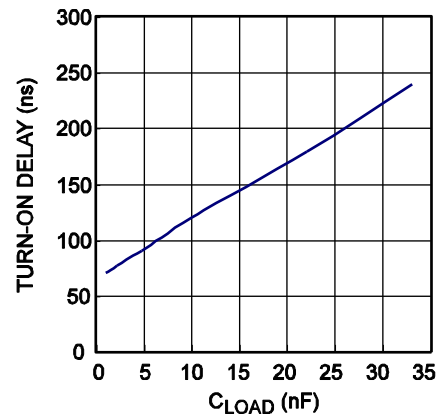

**Figure 12: Synchronous Rectification Typical Waveform in LLC**
Figure 12 shows the typical waveform of the LLC on the secondary side. To achieve a fairly high usage of the MOSFET’s  $R_{DS(ON)}$ , it is expected that the MOSFET driver voltage is kept at the maximum level until the last 25% of the SR conduction period. Calculate  $V_{DS}$  with Equation (2):